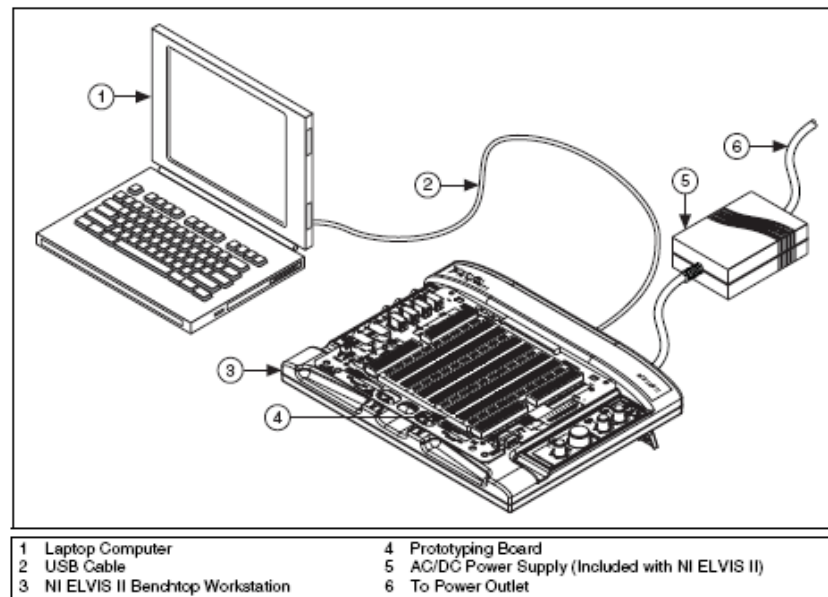

Figure 3: NI ELVIS II Series Set-Up
- 2) Turn the prototyping board power switch located on the rear panel to the on position (see Figure 3).
- 3) Turn the prototyping power supply switch located on the benchtop workstation to the on position (see Figure 3).